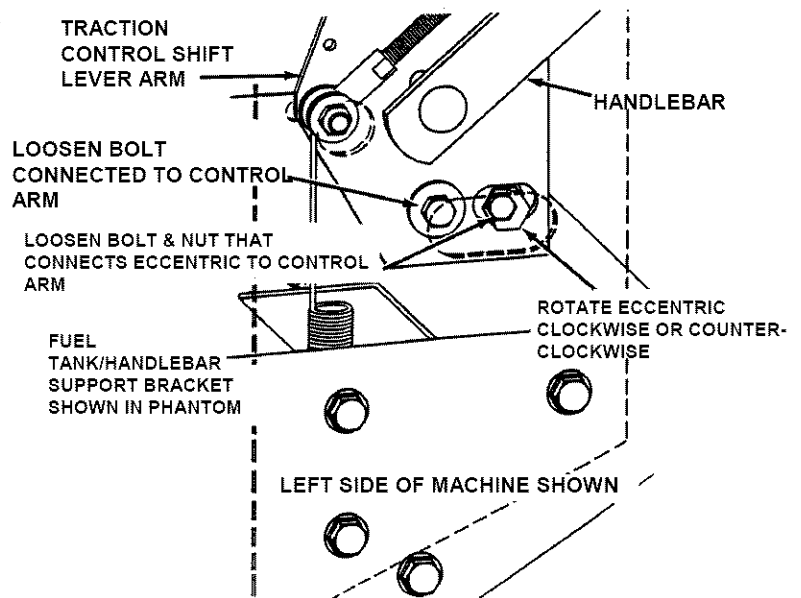

FIGURE 3.11
**STEP 10:** Wheel rotation will be stopped by adjusting the eccentric on the pump arms on the right and left pumps. Turning the eccentric slightly clockwise or counter-clockwise will synchronize the pump and traction controls for Neutral. See Figure 3.11. To turn the eccentric, first loosen the bolt in the pump control arm and the nut and bolt fastening the eccentric to the pump control arm. With both Traction Levers latched in Neutral, start engine. Turn eccentric slightly clockwise or counter-clockwise until wheels stop rotating. Tighten control arm bolts and eccentric nut and bolts. Check for wheel rotation. Repeat eccentric adjustment if needed.